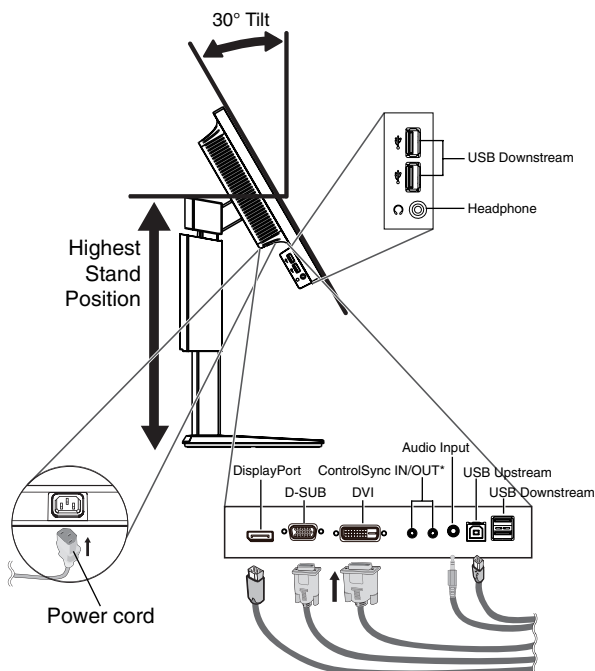
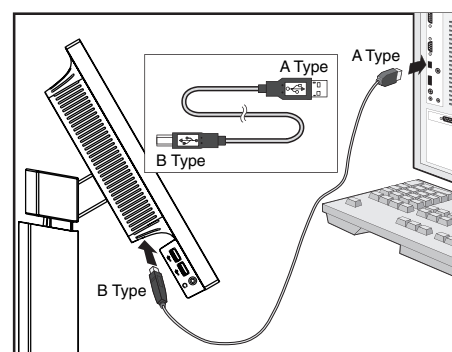

Figure C.1
Figure C.1a
4. Connect all cables to the appropriate connectors (**Figure C.1**). When using the USB cable, connect the B type connector to the USB upstream port on the right back side of the monitor and the A type connector to the downstream port on the computer (**Figure C.1a**). If using the cord from a USB device, plug into one of the downstream ports of the monitor.